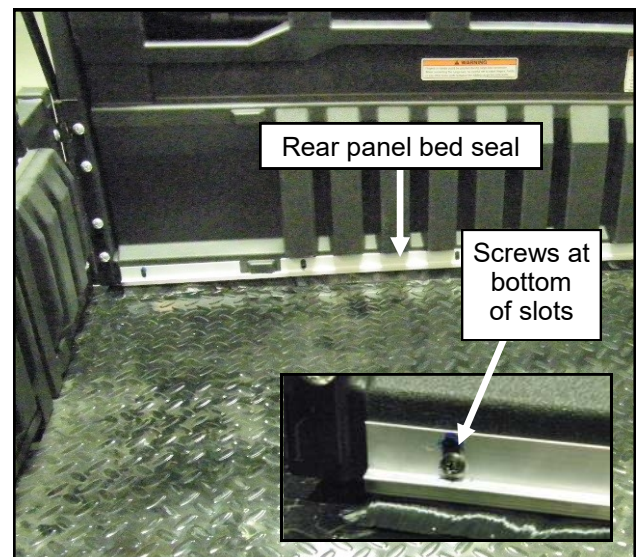

Fig. 2.2 Rear panel bed seal
- 2.1 Convert the rear seat and cargo bed into the 3-seater, extended bed mode. Per figure 2.2, remove the four Phillips screws from the rear base of the seat assembly.
- 2.2 Per figure 2.2, place the rear panel bed seal against the bottom rear of the seat assembly. Install (7) self-drilling screws at the bottom of the slots in the aluminum brush holder of the bed seal.